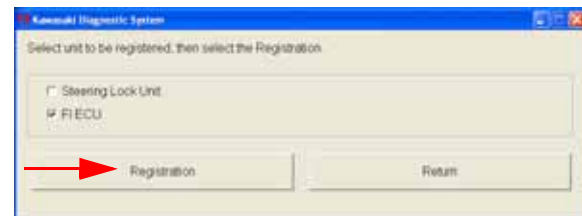

Fig. 5-49 FI ECU Selection
- o Select **FI ECU**, then select **Registration** (Fig. 5-49).